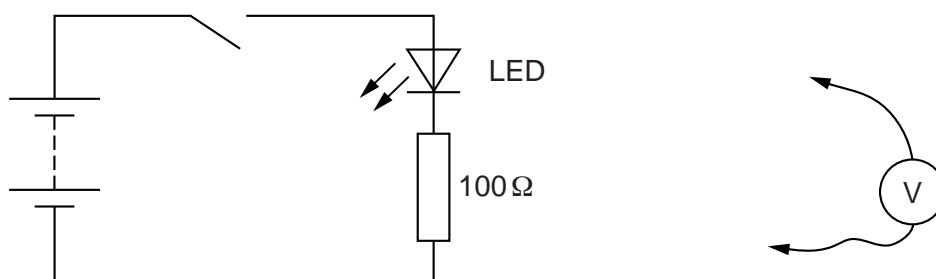

Fig. 2.1
Four connecting leads to enable the Supervisor to set up the circuit shown in Fig. 2.1 (see Note 4).
- The Supervisor should set up the circuit as shown in Fig. 2.1.
- At the changeover, the Supervisor should remove the $330\ \Omega$ resistor from the circuit and replace it with the $100\ \Omega$ resistor. The circuit should still be set up as shown in Fig. 2.1 with the voltmeter disconnected. The switch should be open.